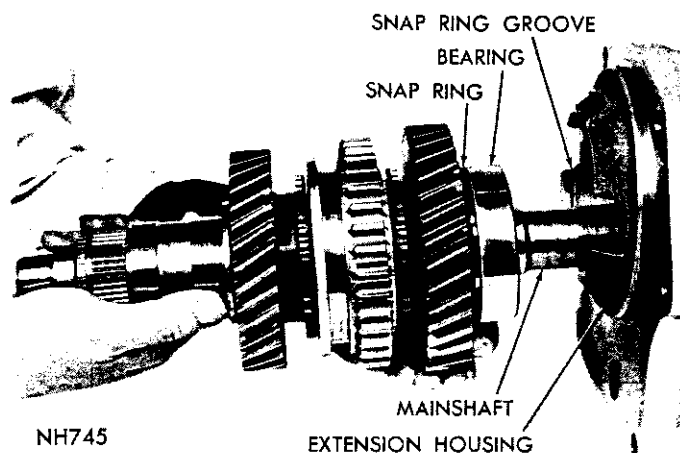
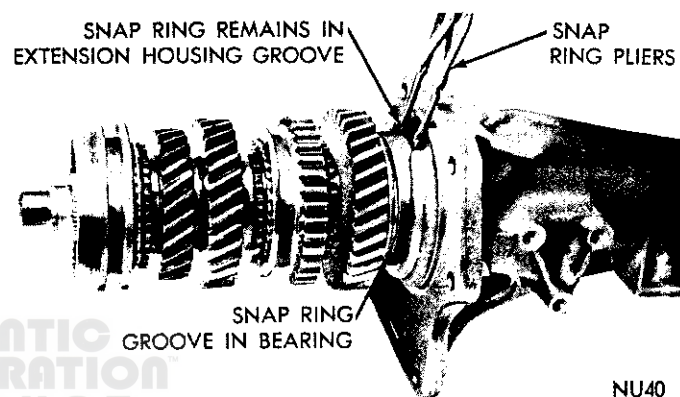

Fig. 24—Removing or Installing Mainshaft
Fig. 25—Removing or Installing Mainshaft (Heavy Duty Model)
(8) Holding snap ring compressed, pull mainshaft assembly and bearing out of extension housing (Fig. 24). **HEAVY DUTY MODEL** (Fig. 25) has snap ring in outer race of bearing. Use snap ring pliers to expand and hold this ring while removing mainshaft and bearing from extension housing.